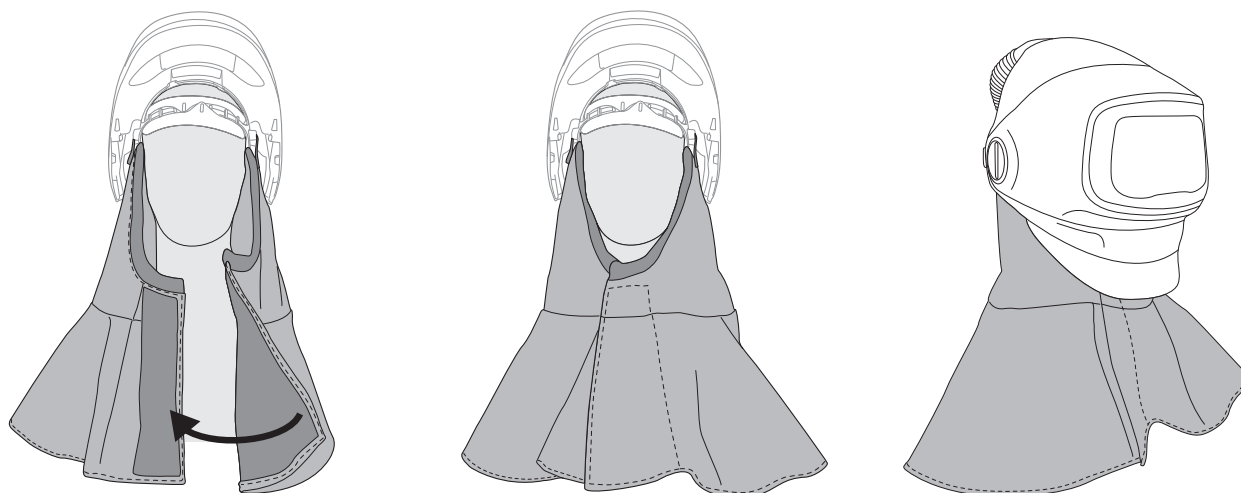

Fig. 29g
- f. To don the welding helmet with the shroud, open the hook and loop seal, place the shroud behind the head, lower the welding helmet, tighten the headgear suspension and seal the hook and loop fastener done the front of the user (Fig. 29g).